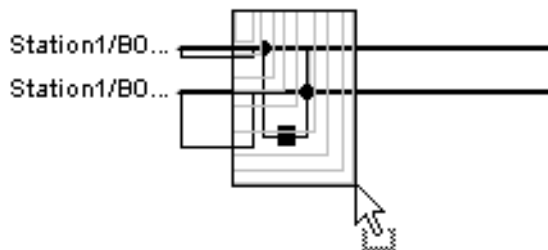

Fig. F.1: Selecting two busbars
- ▶ Select both busbars of the DBS by drawing a rectangle over them: left click the drawing sheet, drag the mouse to draw the rectangle, release the mouse to select both busbars. The DBS does not have to fit in the square: every element that is partly in the square will be selected. In the figure F.1, two busbars are about to be selected by dragging a small square over them. Be sure to also select the bus coupler before moving.